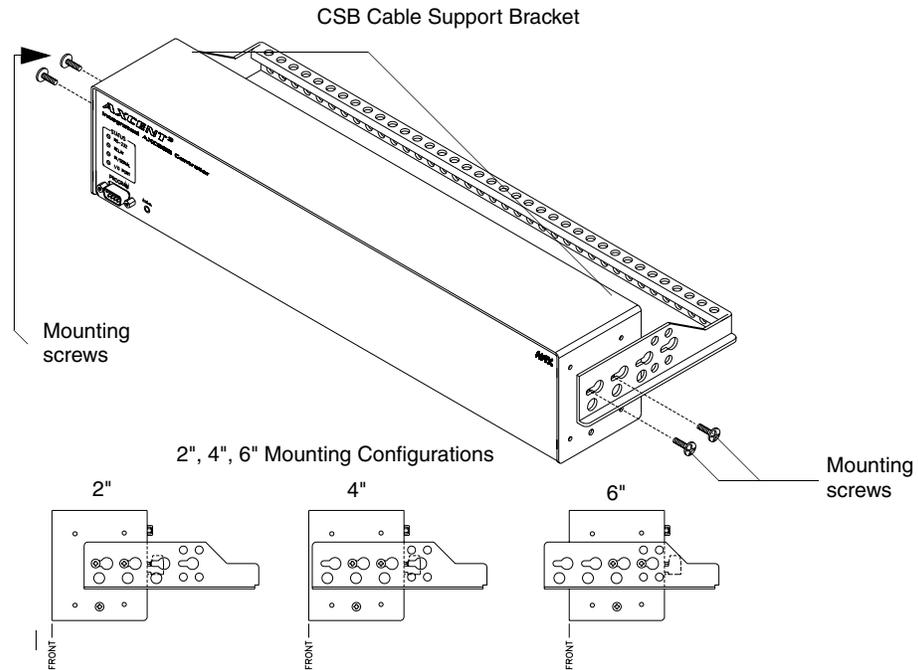

FIG. 3 CSB mounting diagram
4. Install the CSB, as shown in FIG. 3.